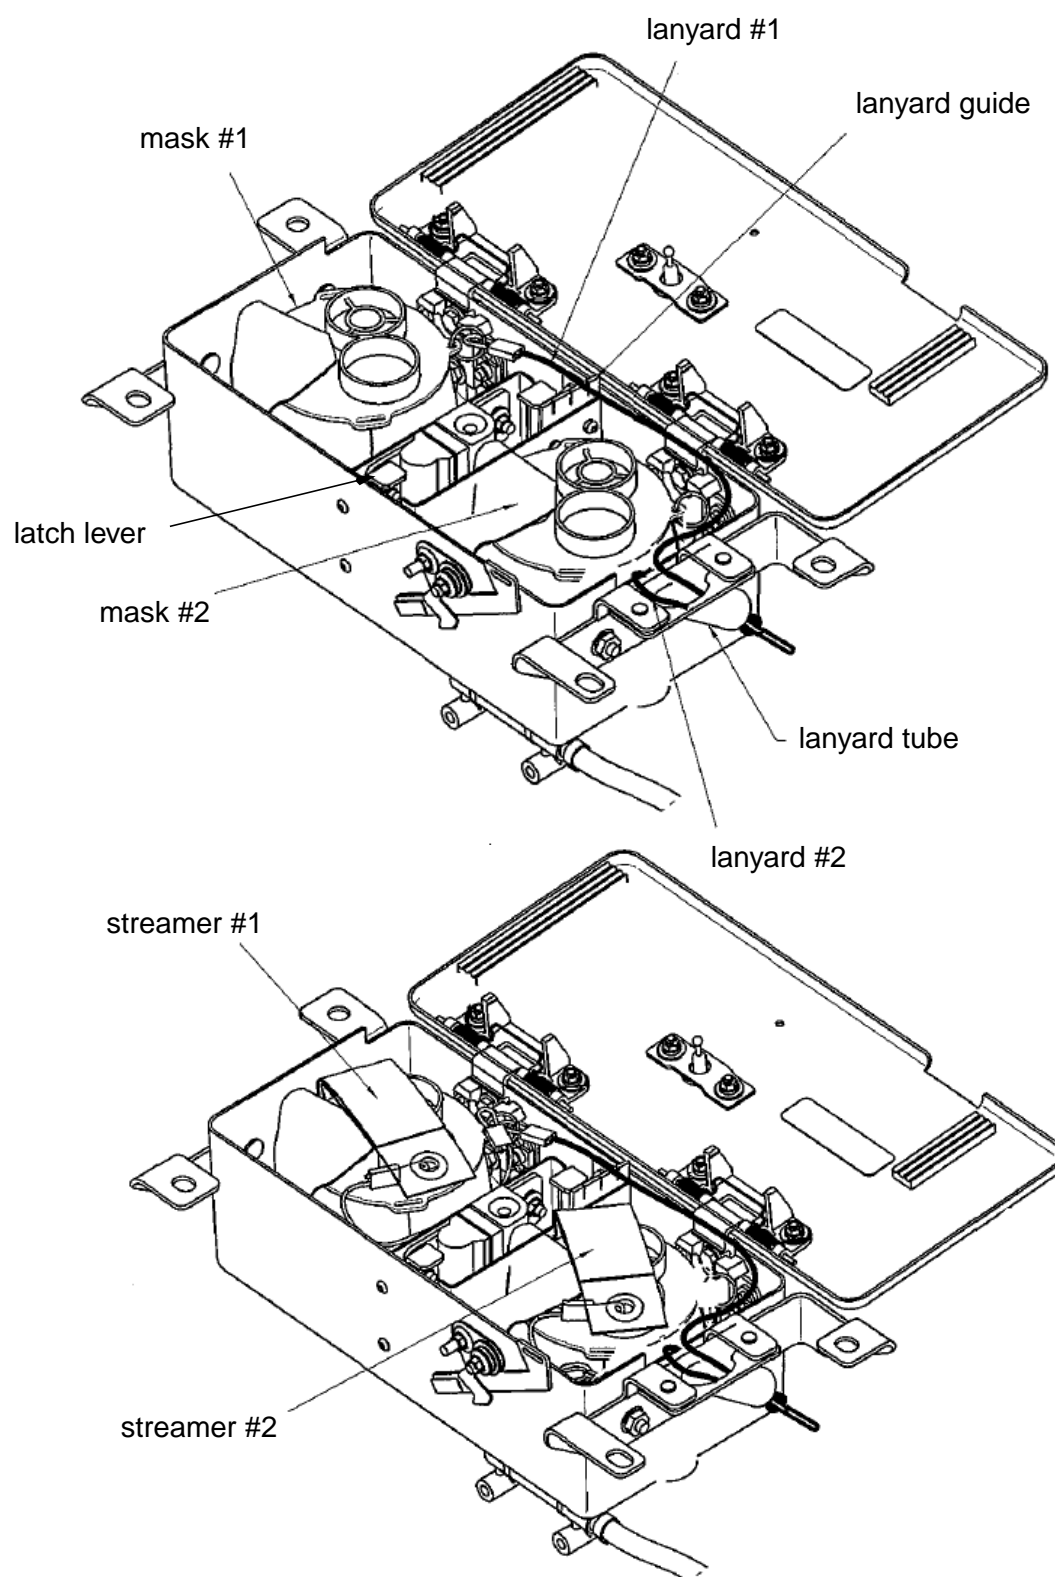

Figure 9 - FWD Flight Attendant Mask Assembly
5.7 Re-Packing of FWD Flight Attendant Mask Assemblies (see Figure 9)